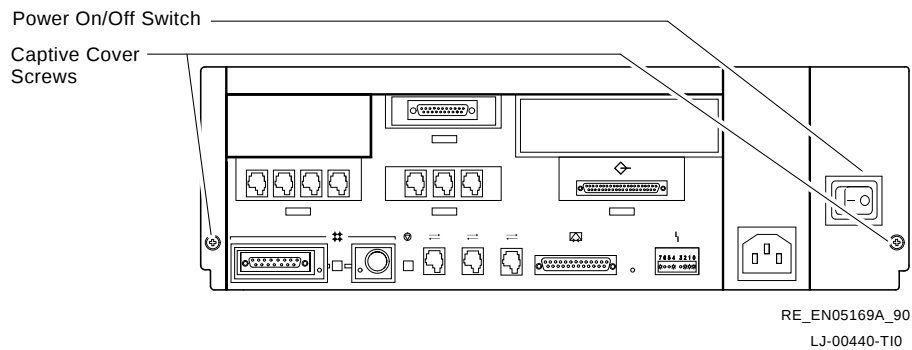

Figure 3-1 Location of On/Off Switch
To run the power-up self-test, turn the system unit's power switch on (I). Figure 3-1 shows the location of the system unit on/off switch.